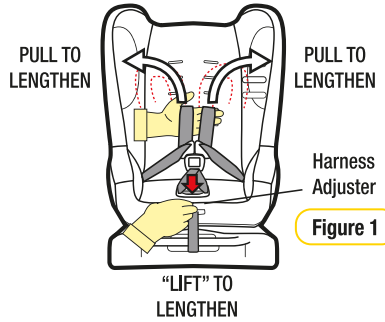

Figure 1
- Step 2:** To lengthen the harness "LIFT" the harness adjuster (refer Figure 1) whilst grasping both shoulder harness straps and pulling. Ensure shoulder straps are pulled equally on each side.